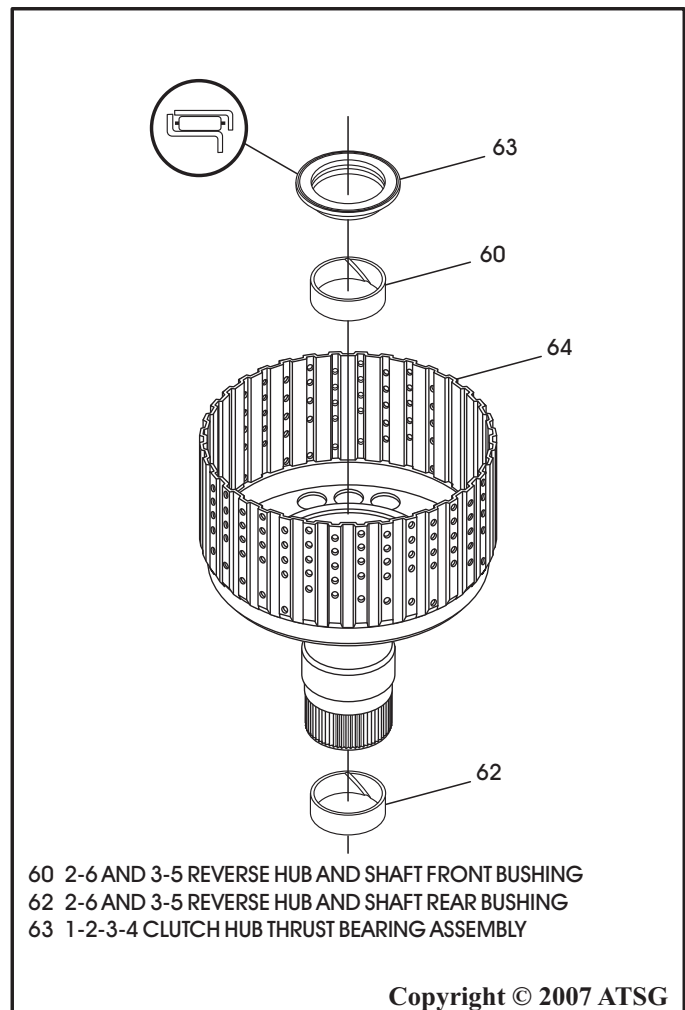

Figure 121
3. Install new bushings as necessary, as shown in Figure 121, using proper size bushing drivers.
4. Install the 1-2-3-4 clutch hub thrust bearing, as shown in Figure 121, and retain with a small amount of Trans-Jel®.